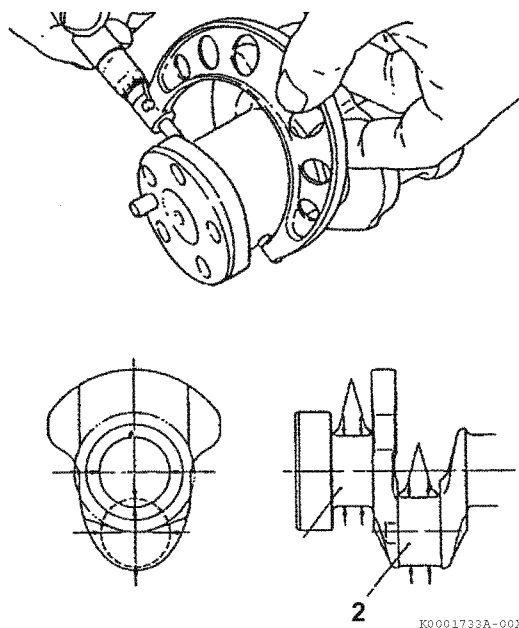

Figure 6-72
- Measure the outside diameter of each crankpin (**Figure 6-72, (2)**) and main bearing journal (**Figure 6-72, (1)**). *See Crankshaft on page 6-6 for specifications.* Take measurements at several places around each bearing surface. If not within specification, grind the journals and install undersize bearings, or replace the crankshaft. Record the measurements.